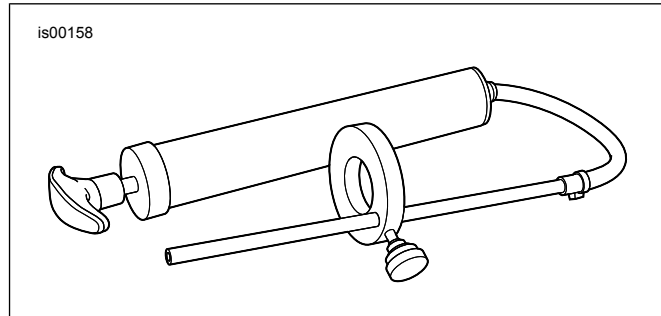

Figure 5. Front Fork Oil Level Gauge (HD-59000B)
- a. See Figure 5. Obtain the FRONT FORK OIL LEVEL GAUGE (HD-59000B).